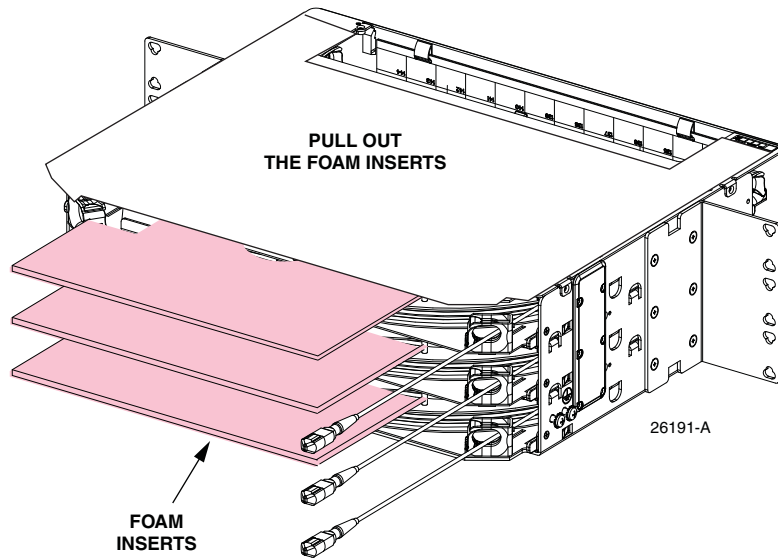

Figure 10. Removing Foam Shipping Inserts
1. If mounting a 3RU panel, remove the three foam shipping inserts from the rear side of the panel, as shown in Figure 10, and discard.